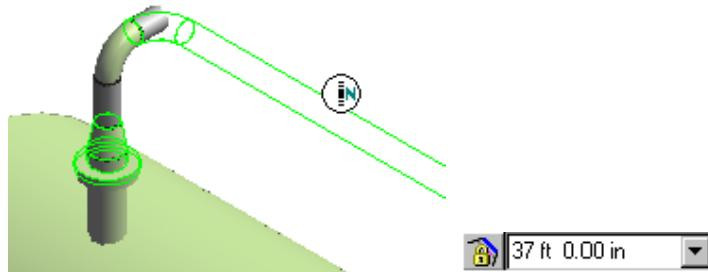

Figure 21: Routing Pipe in the North-South Plane
15. Position the cursor in the south direction until SmartSketch displays the **N** glyph, as shown in Figure 21, which depicts that you are in North-South plane.